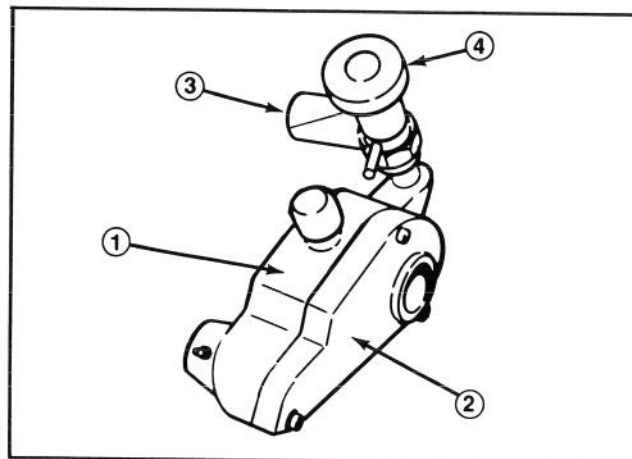

Figure 7
3. Machine screws (4)
A. Remove housing assembly cover (Fig. 7).
- B. Disassemble the adjustment knob assembly and separate the mounting block from the assembly (Fig. 7).